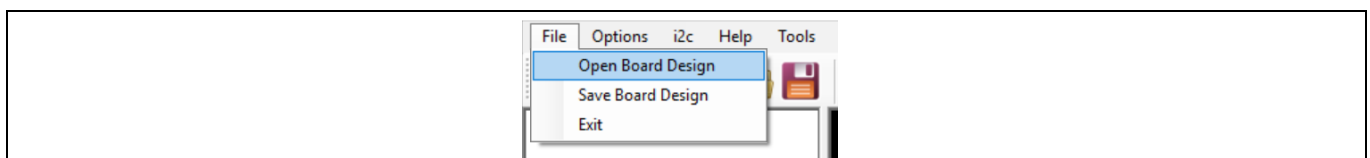
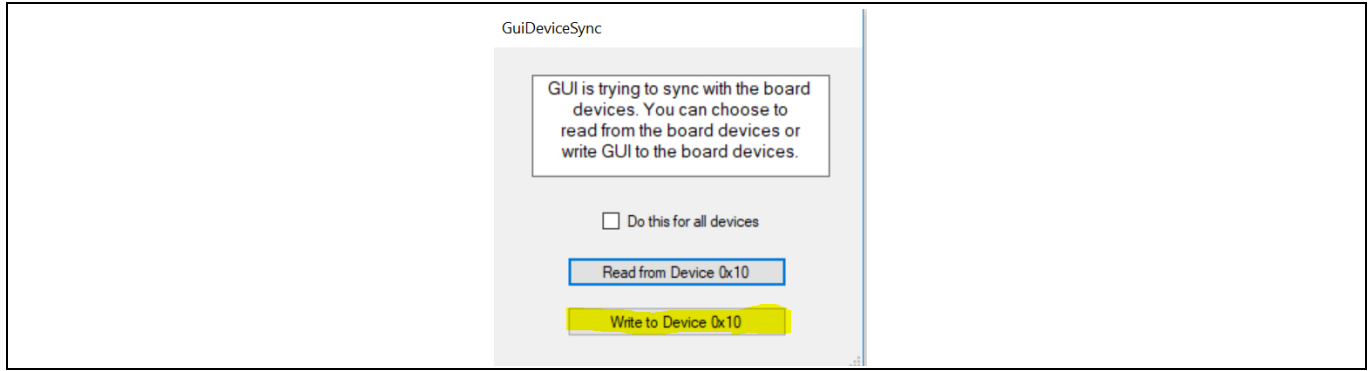

Figure 11 Open design file
Figure 12 Write to device operation
- To re-load the design file to the device use “Open Board Design” as shown in **Figure 11** to open the “.pcd” file. The GUI will show a pop-up window (**Figure 12**). Click **Write to Device 0x10**. This will write the program into RAM of the IC.